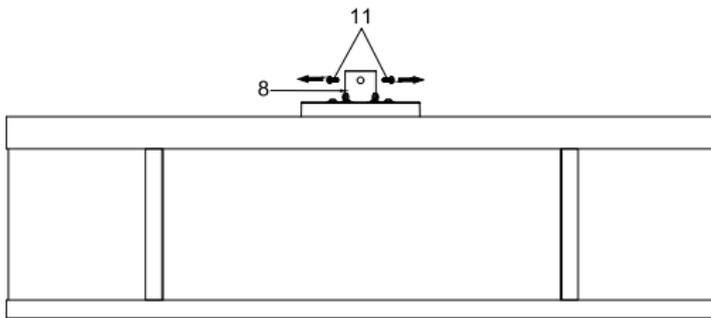

Fig. 5.2
2. Loosen the set screws (11) on the down rod coupling housing (8). (Fig. 5.2)